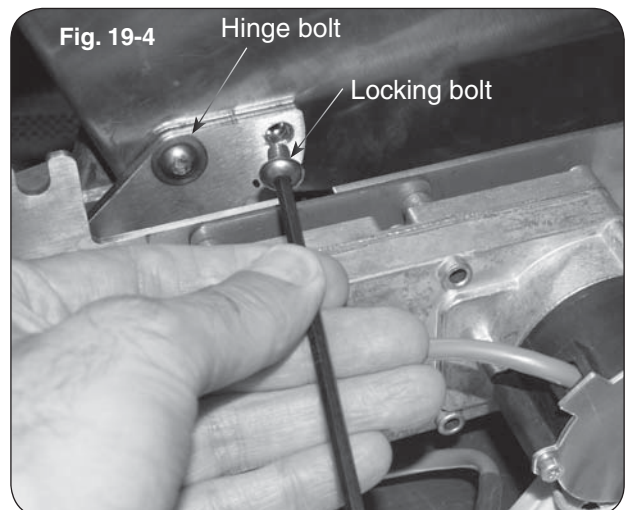

Fig. 19-4
3. Use the Allen wrench to loosen and remove the lid motor assembly locking bolt and washer (see Fig. 19-4).